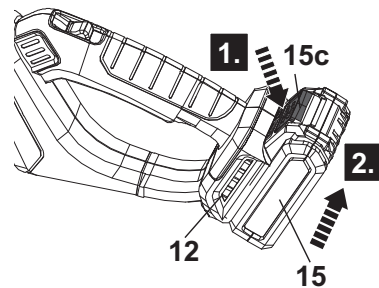

Fig. 4
2. Press the release button (15c) and remove the battery pack (15) from the battery docking port (12) (Fig. 4).